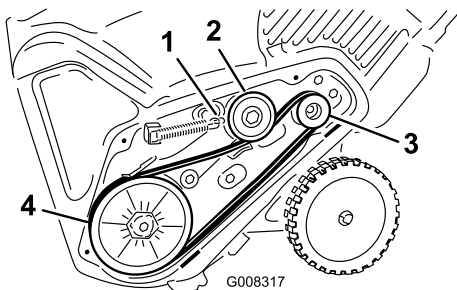

Figure 37
5. Install the new drive belt, routing it as shown in (Figure 37).
8. Install the brake spring onto the idler arm (Figure 37).